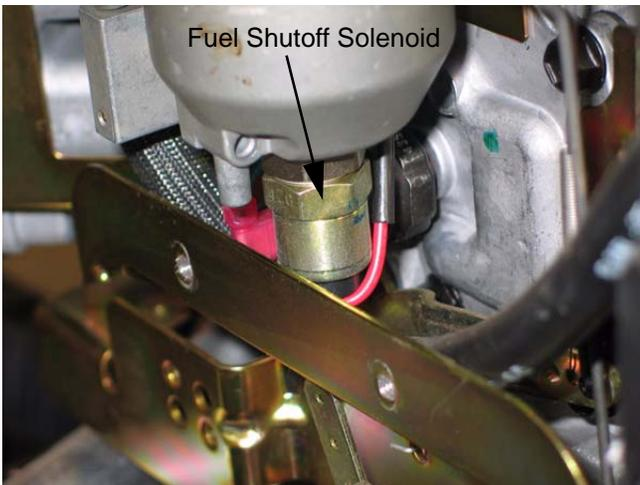

Figure 7.1
7.1. In all models of the 1000 and 1500 Series Cub Cadet riders, there is a fuel shut-off solenoid mounted to the carburetor. See Figure 7.1.